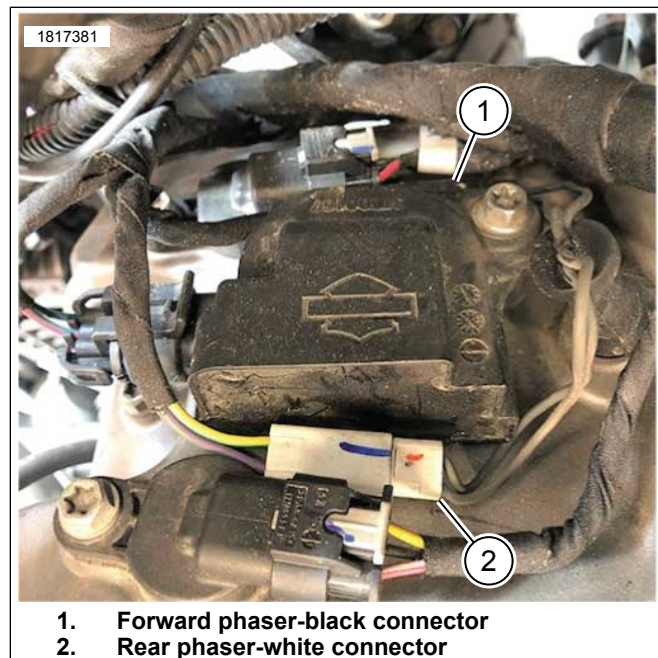

Figure 2. Front Cylinder VVT Harness Connectors (Typical)
1. See Figure 2. Disconnect black connector [270 FEA-1] (1).
1. See Figure 2. Disconnect white connector [270 FIA-1] (2).